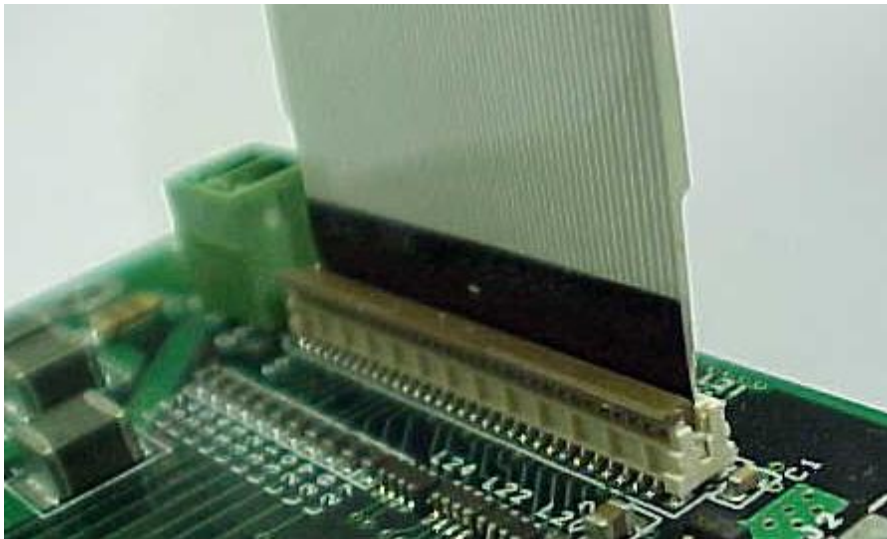

Figure 6.1 Cam lock in the Open (Up) position
1. To remove the Display Cable rotate the cam to the open (up) position (see Figure 6.1).